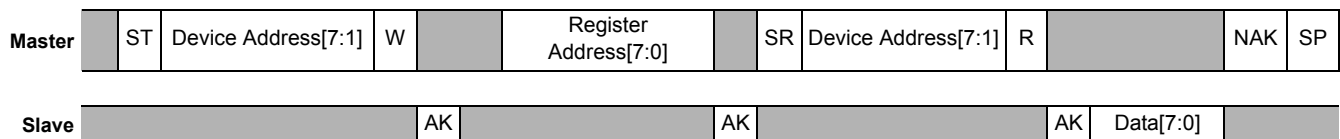

Figure 10. Single-Byte Read timing (I²C)
1. The transmission of an 8-bit command begins on the falling edge of SCL. After the eight clock cycles are used to send the command, note that *the data returned* is sent with the MSB first after the data is received. Figure 10 shows the timing diagram for the accelerometer 8-bit I²C read operation.
2. The Master (or MCU) transmits a start condition (ST) to the MMA8653FC [slave address (0x1D), with the R/W bit set to "0" for a write], and the MMA8653FC sends an acknowledgement.
4. The Master (or MCU) transmits a repeated start condition (SR) and then addresses the MMA8653FC (0x1D), with the R/W bit set to "1" for a read from the previously selected register.